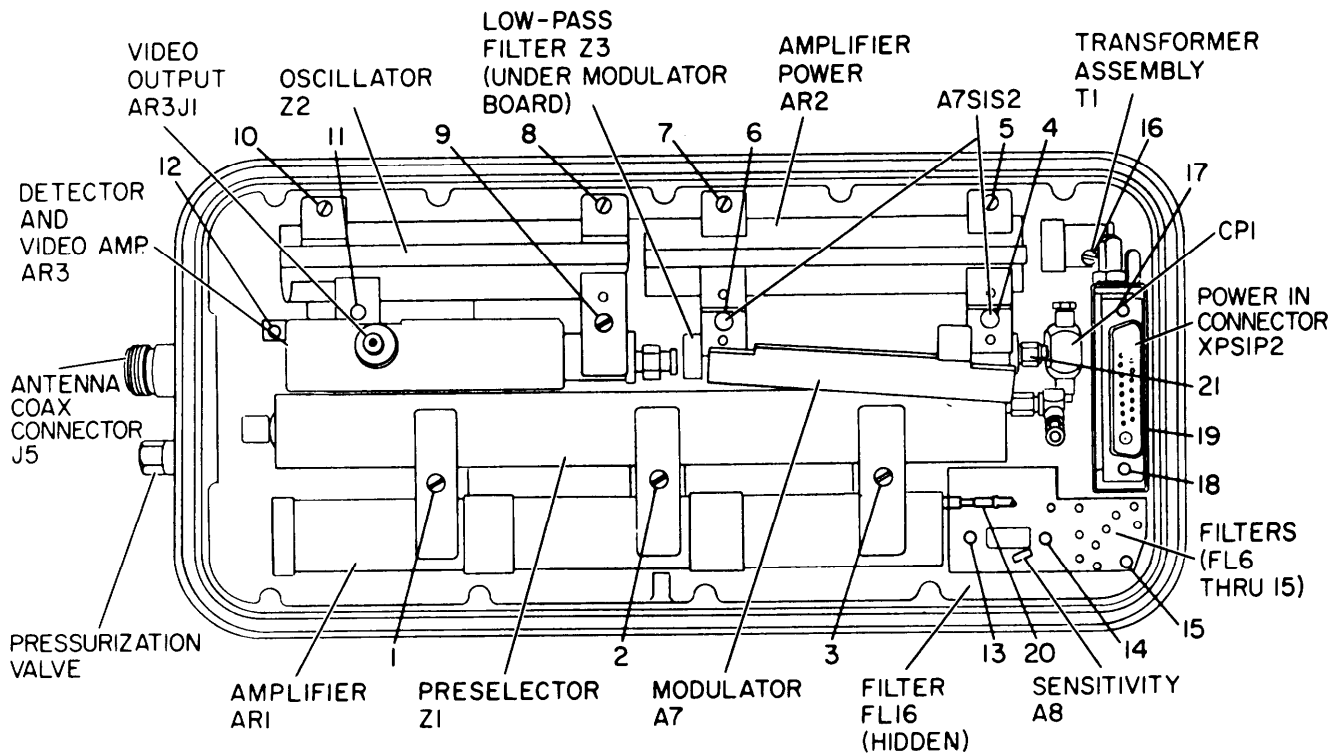

Figure 4-17. RT-859/APX-72 RF Section, Subassembly Location and Disassembly Points
c. Remove screws A7S1 and A7S2 on modulator board A7 (figure 4-17).
f. Unscrew and remove the preselector Z1 and amplifier AR1 mounting clamps (1, 2, and 3, figure 4-17) .
h. Remove mounting clamps held in position by screws (4 through 11, figure 4-17).
k. Disconnect cables to low-pass filter Z3 and oscillator Z2 and remove AR2. (Z3 is under A7 in figure 4-17.)
Remove case mounting screw (12, figure 4-17) and Z2.
p. Remove mounting screws 13 and 14 on sensitivity board A8 (figure 4-17) . (Take care not to lose the standoff that separates the filter FL16 from the sensitivity board.)
Remove mounting screw (16, figure 4-17).
t. Unsolder and tag all leads to transformer assembly T1 (figure 4-17).
u. Remove two guide pins (17 and 18, figure 4-17).
v. Unsolder and tag all leads to power-in connector XPS1P2 (figure 4-17).
Remove screw 15 on side of filter assembly FL6 through FL15 (figure 4-17).